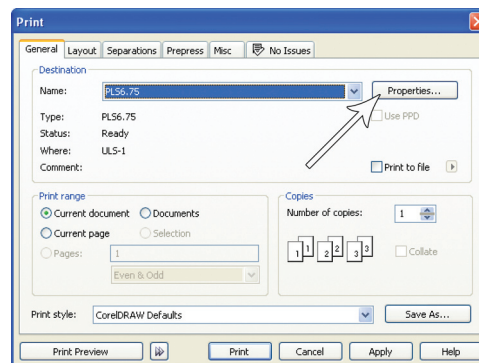
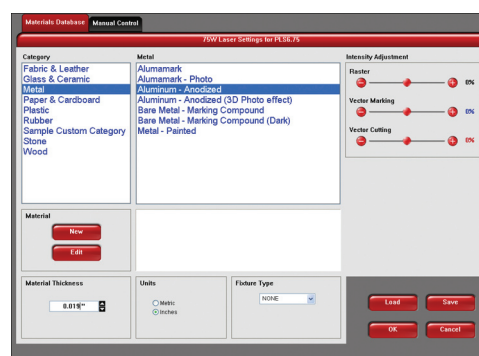

Figure 4
Figure 5
2. When you are ready to print the job, click FILE and then click PRINT. Make sure that your laser system appears in the DESTINATION NAME dropdown list, and then click PROPERTIES (Figure 4) to display the ILS system printer driver settings (Figure 5).
3. Choose your material, in this case metal, and then select the correct material type: Aluminum Anodized (Figure 5).
7. Now click on PRINT in the Print dialog window (Figure 4).